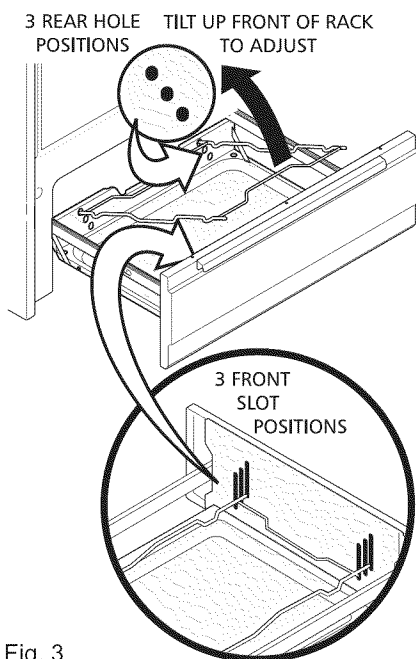

Fig. 3
4. Position rack by tilting front of rack up and pulling rack out from locating holes in rear of broiler drawer. Reposition back of rack in the desired locating holes and allow front of rack to slide down into the corresponding slots in front of broiler drawer (Fig. 3).